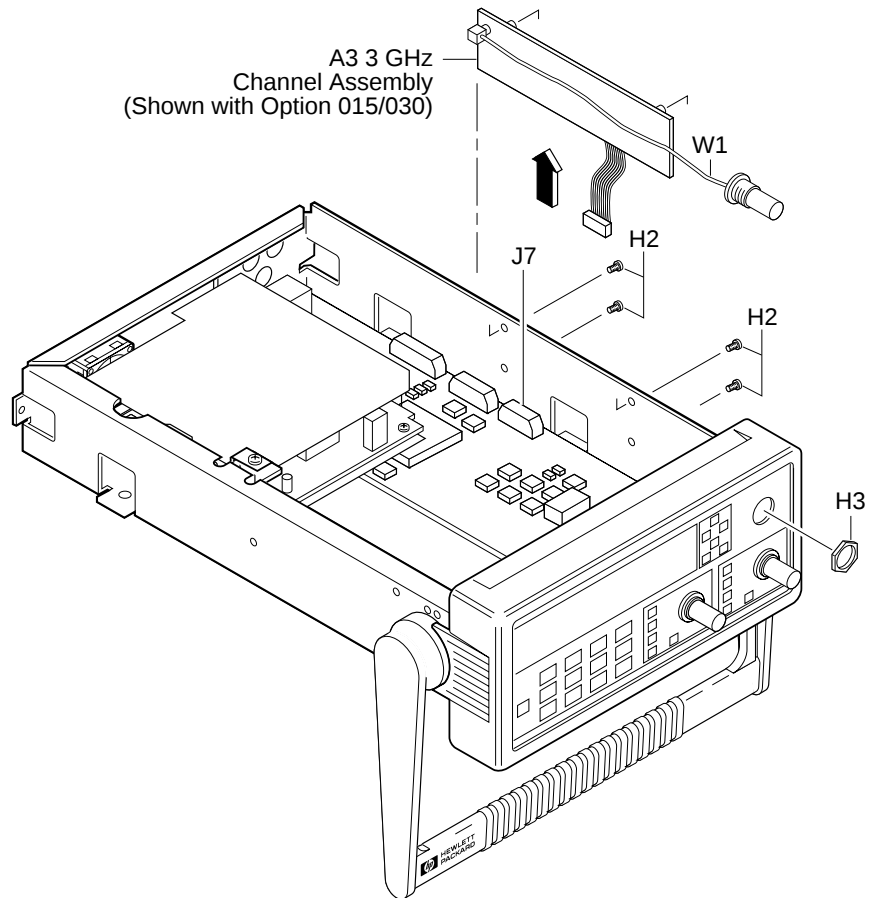

Figure 3-8. Optional Channel Input Assembly Removal
- 3 Pull W1, which is the optional channel assembly cable, out of the Channel 3 (or 2) opening in the front panel assembly as shown in Figure 3-8. For the Option 050 or 124, the connector is part of the Option assembly.**
- 4 Disconnect flat-ribbon cable of the optional channel from connector J7 of A1 Motherboard Assembly as shown in Figure 3-8.**
- 5 Remove the four (two or three for Option 050 or 124) screws (H2) attaching the optional channel to the chassis as shown in Figure 3-8.**